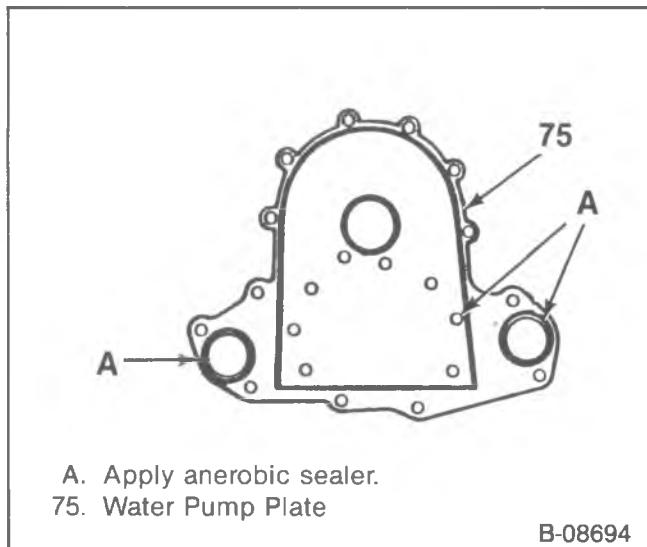

Figure 48—Applying Sealer to the Water Pump Plate
- Bolts (88) to 22 N·m (16 ft. lbs.).
- Apply a bead of anaerobic sealer (GM part no. 1052357 or equivalent) to the water pump plate as shown in figure 48.
- Apply sealant (GM Part no. 1052080 or equivalent) to the threads of bolts and studs (76).
- 4. Bolts and studs (76).